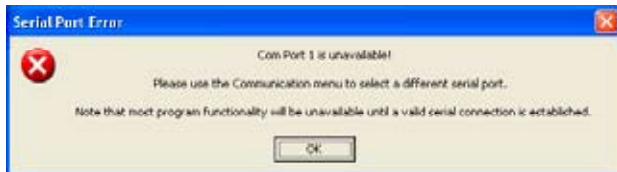

Figure 3-4. Prompt for Serial Port Selection.
3. If Serial Port 1 does not exist on the PC, or if the PC is not allowing serial port 1 to be accessed by the program, the program will prompt the user to select a different serial port (Figure 3-4).